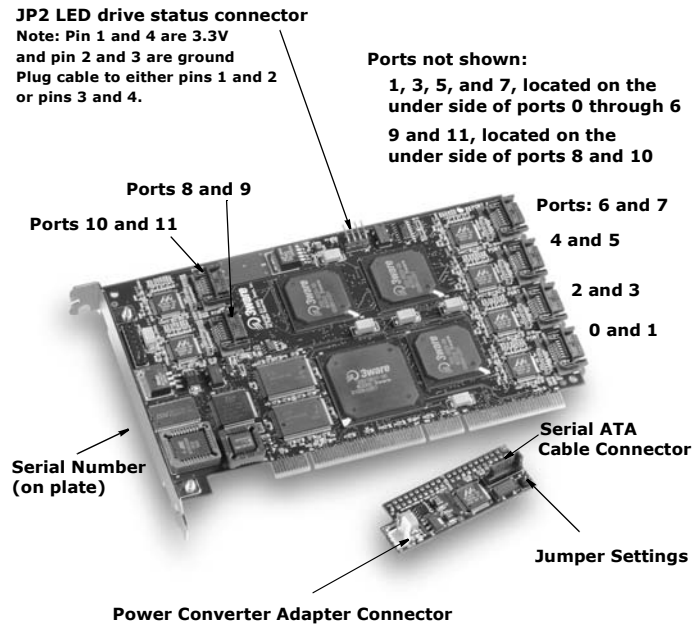

Figure 2. 12-Port Escalade 8500-12 Serial ATA RAID Controller with CBL-P-SATA (Parallel to Serial ATA Converter)
- 1 Connect the interface cables supplied with the product to the ATA RAID Controller. See Figure 2.